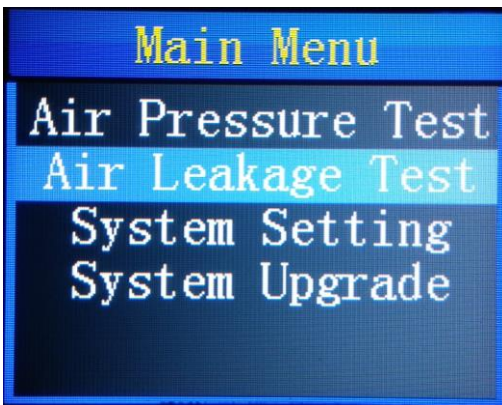

Figure 1
1. Enter into the **Main Menu** and use the UP/DOWN button to select **Air Leakage Test** (Figure 1), confirm your selection with ENTER.